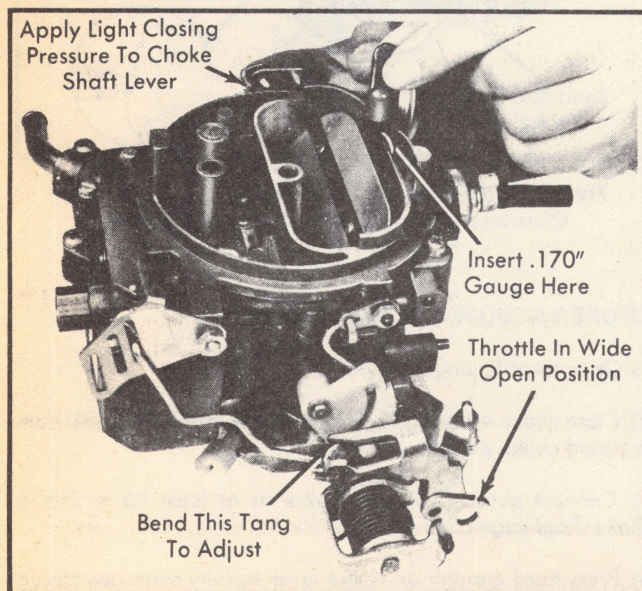

Fig. 7 Measuring Choke Valve For Carburetor Choke Unloader Adjustment
- 4) Adjust by bending tang on throttle lever. See Fig. 7.